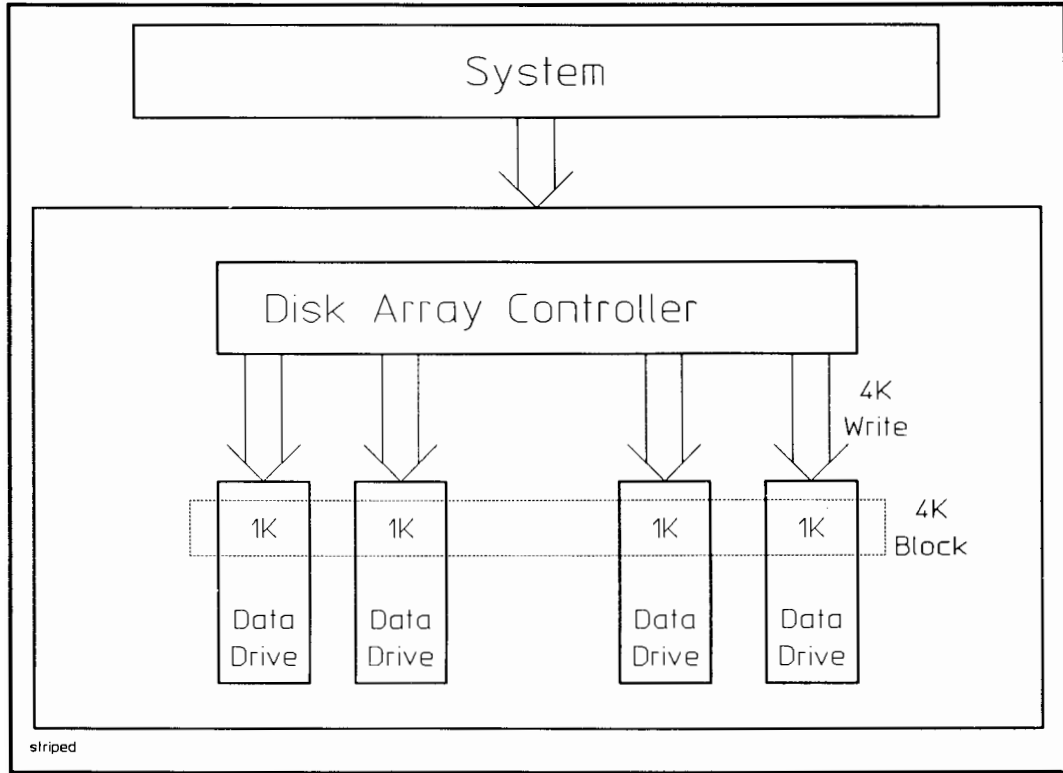

Figure 1-6. Striped Mode
When a disk array operates in Striped Mode two or four synchronized disk drives are grouped together for high-speed, parallel data transfers. Each group functions as a single logical device (LDEV) or logical unit (LU) on the system. By using multiple disk drives to share the burden of data storage and retrieval, throughput is increased. Striped Mode increases the data transfer rate of the disk array by a factor of the number of disk drives in the disk array (two or four). During a write operation, data is distributed byte-by-byte across the disk drives (see Figure 1-6). During a read operation, data streams from the disk drives are merged by the array controller to recreate the original data block. Thus, Striped Mode can increase performance for applications that use large data transfers.